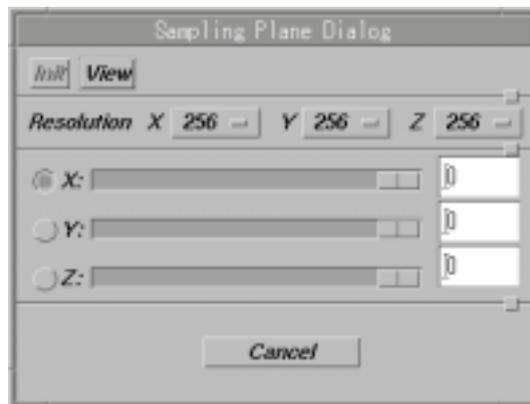

Fig. 7-20. Initialized Section Extraction Dialog
2. Click the **Init** button on the left in the section extraction dialog to initialize the initial settings for the section extraction. The **View** button of the section extraction dialog, the **Resolution** pop-up menu of each **X**, **Y**, and **Z** toggle buttons, the sliders, and the input fields will become effective after the initialization. It is shown in Fig. 7-20.